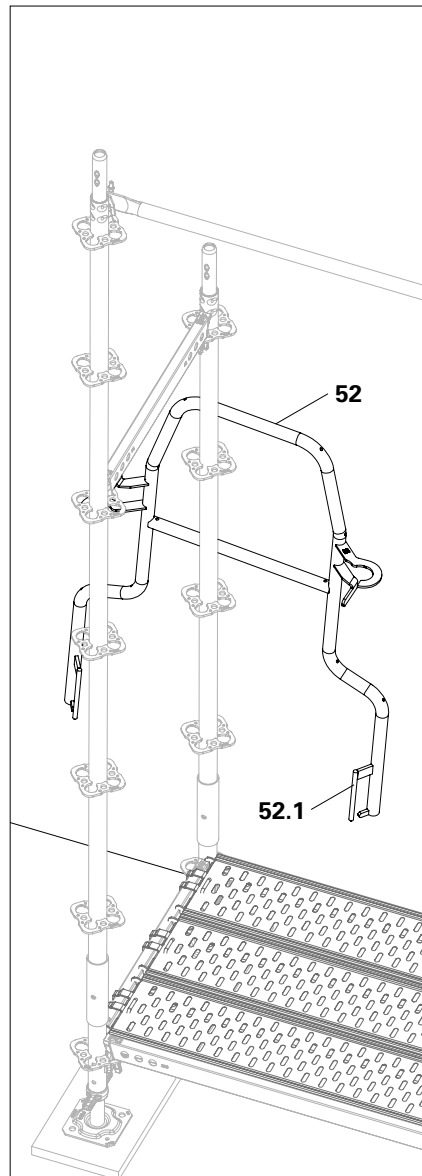

Fig. A3.10a
1. Guide the end guardrail in advance (**52**) outwards around the standard. The pegs (**52.1**) should then be pointing towards the inner side of the scaffolding. (Fig. A3.10a)